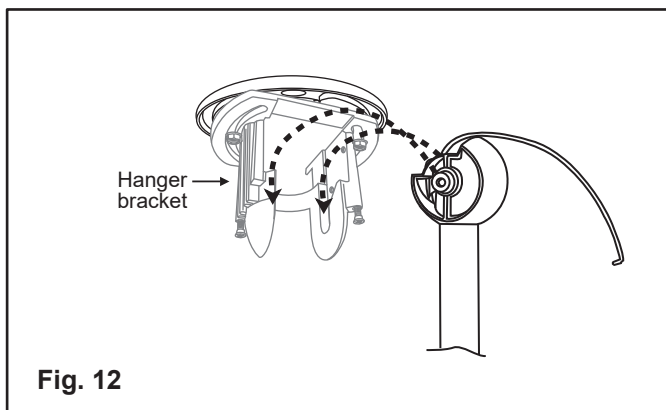
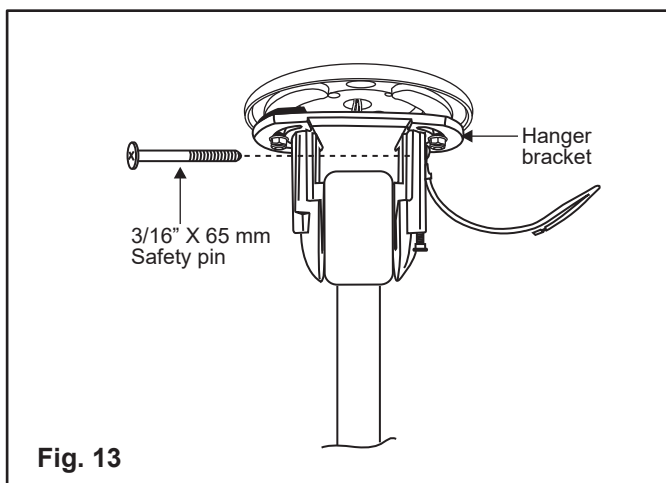

Fig. 12
Fig. 13
**NOTE:** The Hanger Ball can be installed in **ONLY** one direction. The "**cutout**" should be toward the "**Lower**" end of the ceiling slope. (Fig. 12)
8. Now lift the motor assembly into position with the hanger ball in the position (shown in Fig. 13) and place the pivot pens on the hanger ball into the pivot grooves on the hanger bracket. (Fig 12)
Next, lower the hanger ball until the pivot pens rest in the bottom of the pivot groves. (Fig 12)
9. Make sure the Safety Pen installed in Fig 12 is installed but **NOT** tightened. (Fig 13)